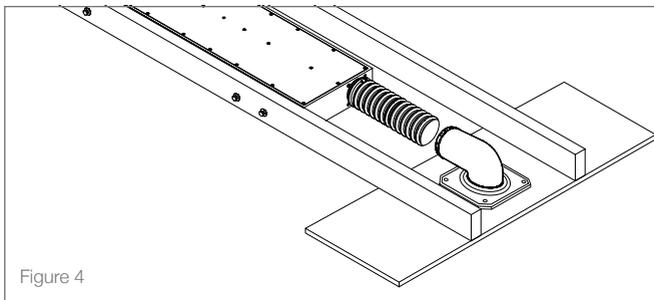

Figure 4
- The BPS6 TL ships with a foam plug and tether inserted into the end of the port tube; **remove and discard**. Guide the port tube onto the 90 degree connector of the mounting platform so the tube is positioned snugly in place. Tighten the clamp ring to secure the port tube (see Figure 4).